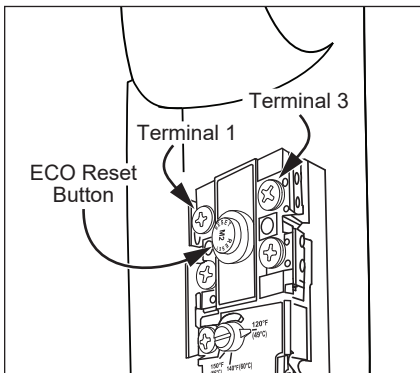

Figure 36 - Energy Cut Off (ECO) Button.
that Power is **OFF** (screw terminals 1 and 3 shown in Figure 36).
- Press the red ECO reset button (Figure 36).